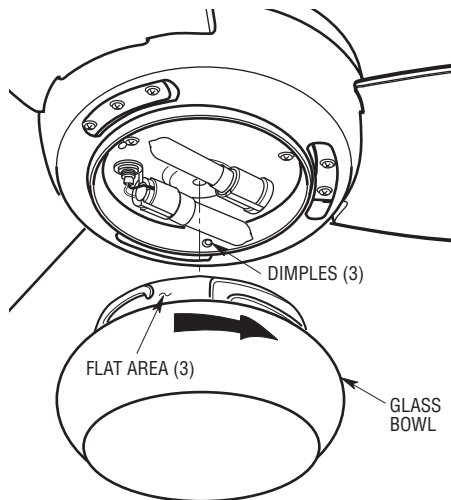

Figure 14
- 2. Place the glass shade into the opening in the fan motor housing assembly, aligning the three flat areas on the top edge of the glass with the three raised dimples on the fan motor housing assembly and turn the glass shade clockwise until it stops (Figure 14).